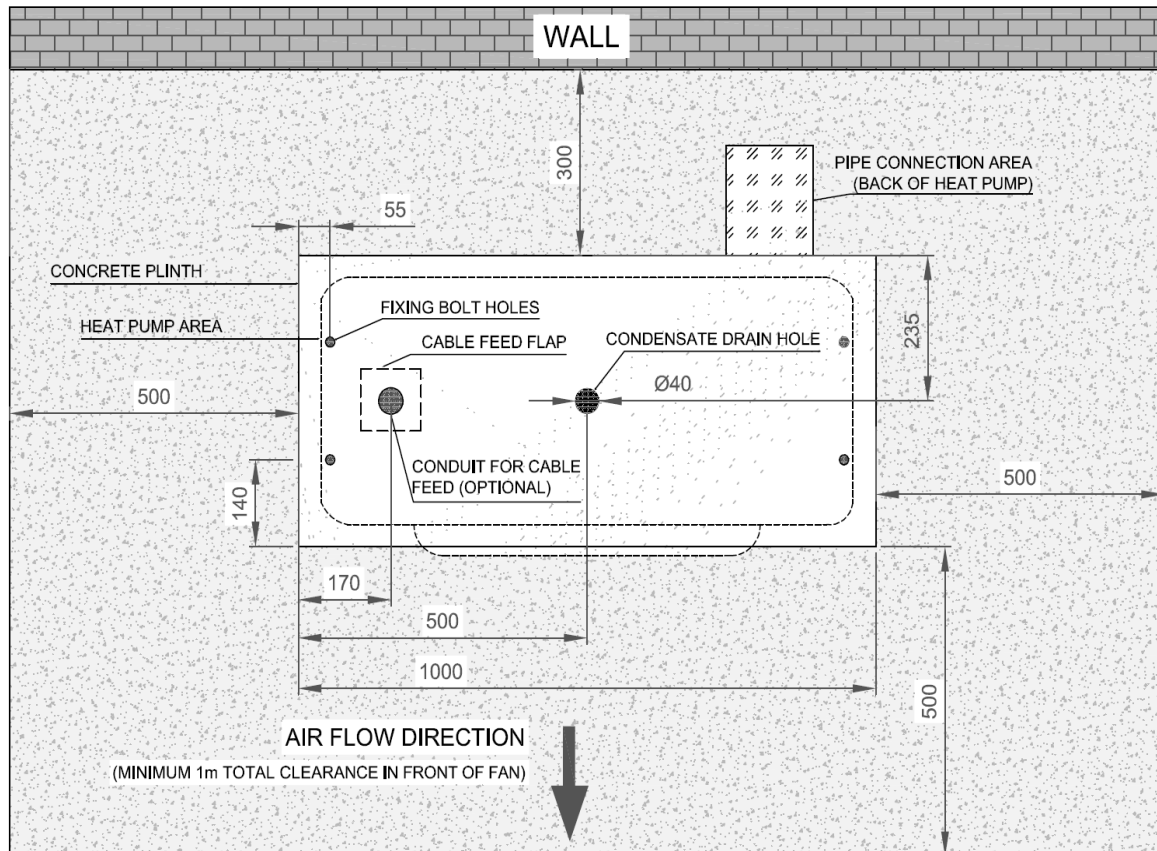

Figure 3: Suggested heat pump layout and minimum access and air flow clearance dimensions (in mm)
- The heat pump must be installed outdoors with adequate clearances for ventilation and maintenance. It is recommended that the heat pump is installed along the property wall, as shown in figure 3.
- The heat pump must be fixed onto a level, stable base that is capable of withstanding the unit's weight of 110-130kg (depending on model), with a minimum distance of 50mm around all sides of the heat pump. It can be secured on the inside of the heat pump with M10 anchor bolts, by removing the outer panels and using the fixing holes shown in figure 3.
- In figure 3, there are four fixing holes Ø16mm (centre 140mm from long edge, 55mm from short edge and 190mm from centre to centre for each pair) and one centre hole for the condensate pipe. The minimum recommended plinth dimensions are 1000mm x 470mm x 100mm.
- The minimum clearance distances around the heat pump are shown in figure 3; 300mm at the rear for air flow, 500mm each side for service and at least 1000mm in front of the fan to avoid air recirculation.